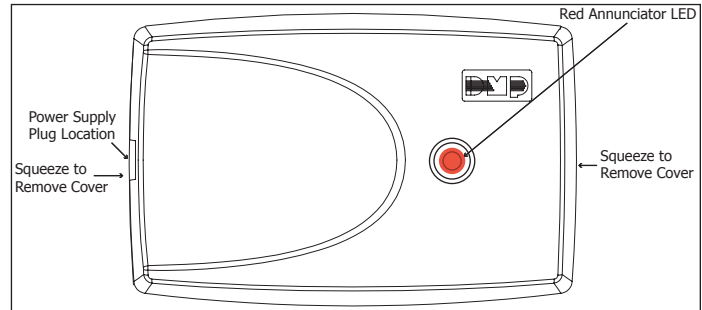

Figure 1: 1117 Wireless LED Annunciator
1. Squeeze the cover left and right sides together to remove. Lift the cover up and away from the base to avoid damage to the Red LED. See Figure 1.
1. Squeeze the left and right cover sides together to remove. See Figure 1.